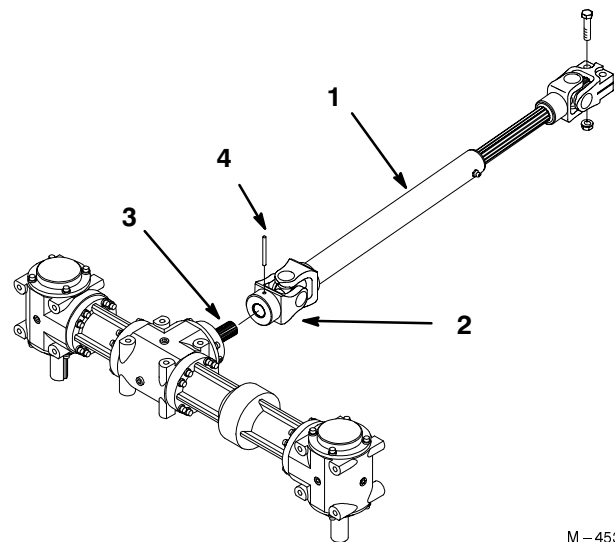

Figure 35
9. Rotate PTO drive shaft so holes align with hole in gearbox shaft and slide together (Fig. 35).
10. Drive roll pin through hole to secure PTO drive shaft to gearbox shaft (Fig. 35).